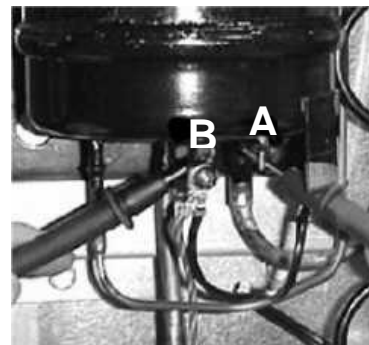

Figure 11
3. Take an Ohm reading (1.4 – 3.5 Ω) at compressor between points A and B (See Figure 11). If Ohm reading is not within range, refer to **Procedure B** on page 4.